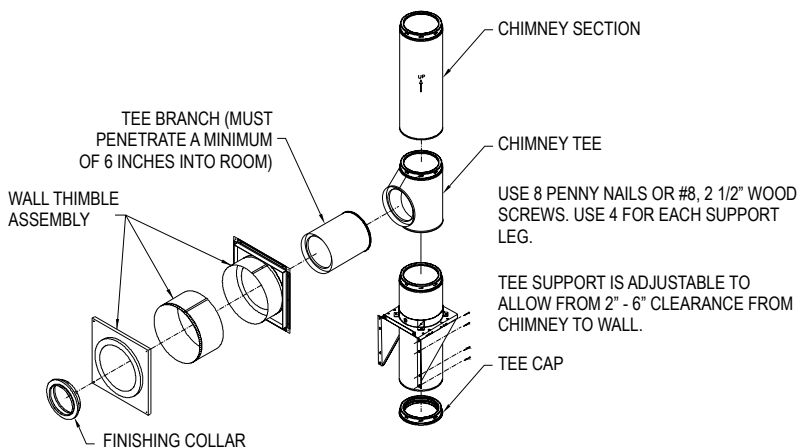

Figure 24
4. Install Tee Support: Install the Tee Support on the outside wall. Position Tee Support so that the chimney Tee will be centered inside the Wall Thimble (**Figs 24, 25, & 26**). The Tee Support may be installed either above the Tee or below the Tee (within one pipe section), as seen in